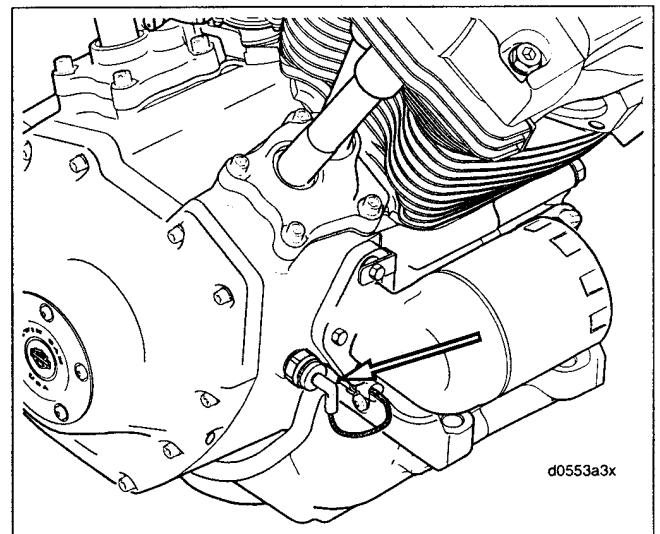

Figure 3-14. Oil Pressure Switch
2. See Figure 3-14. Remove oil pressure switch from crankcase. See 8.30 OIL PRESSURE SWITCH.